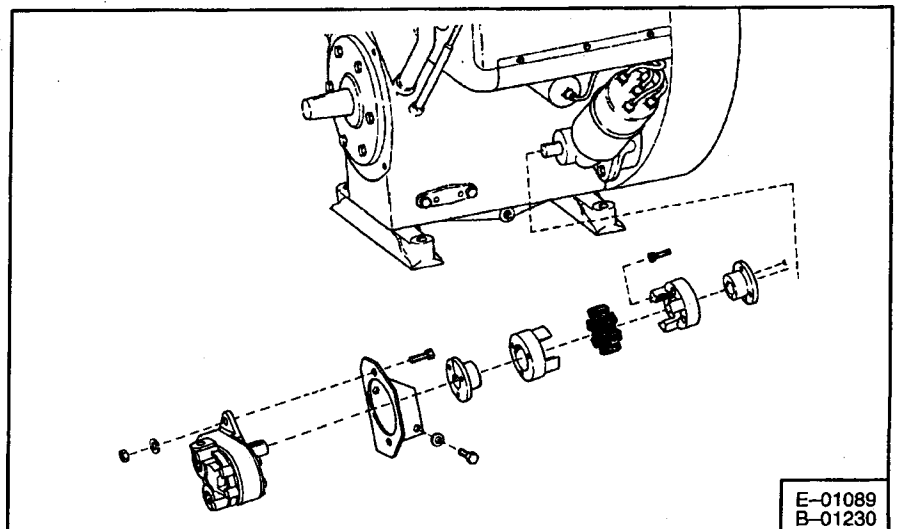

Fig. 4-60 Pump Installation
1. Remove pump and drive coupling from engine (Fig. 4-60).
10. When alignment is correct, remove pump and tighten set screws in drive hub evenly to 9 ft.-lbs. (14 Nm) (Fig. 4-60).
11. Install pump into bracket and hold with fasteners and bolts (Fig. 4-60).